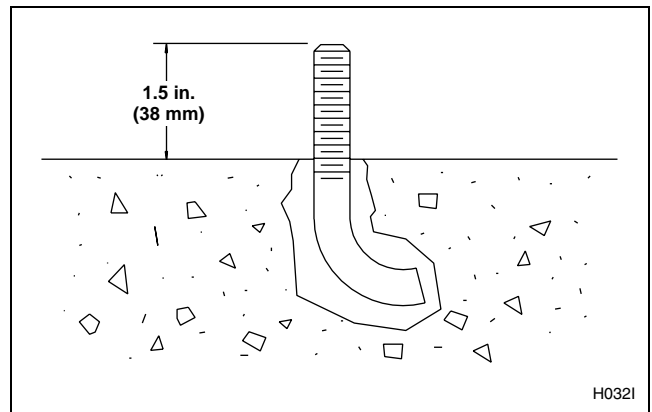

Figure 13
6. Verify that the J-bolts are in the correct locations and that 1.5 inches (38 mm) of each J-bolt protrude from the floor. Refer to *Figure 13*.